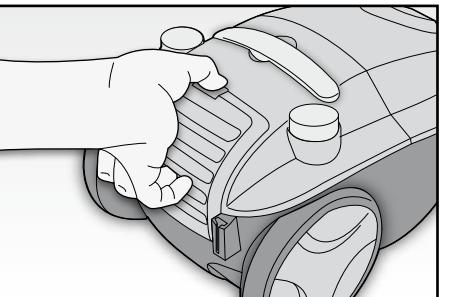

Fig. 10
- Remove the exhaust air filter cover using the special lever (FIG. 10).